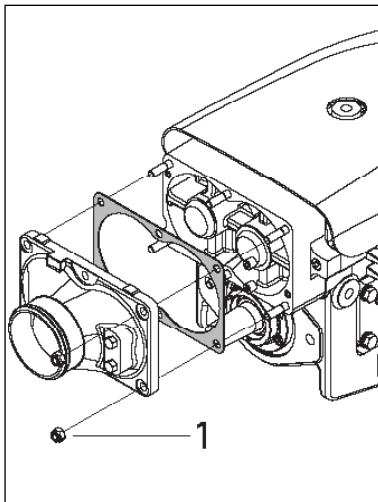

Figure 9. Inlet Flange
Where any pipe work is to be fabricated using slip-on-weld flanges, such as on the inlet in Fig 9, the following points should be followed to prevent damage to the machine and contamination of the discharged product.
Tighten item 1 fig. 9 to a torque of 50 Nm. See above.